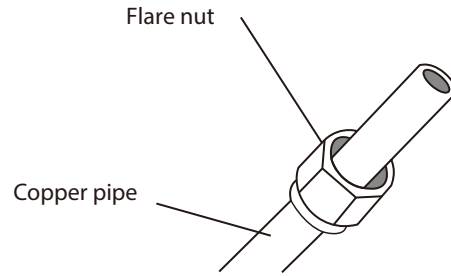

Fig. 6.3
3. Place flare nuts on both ends of pipe. Make sure they are facing in the right direction, because you can't put them on or change their direction after flaring. See Fig. 6.3 .